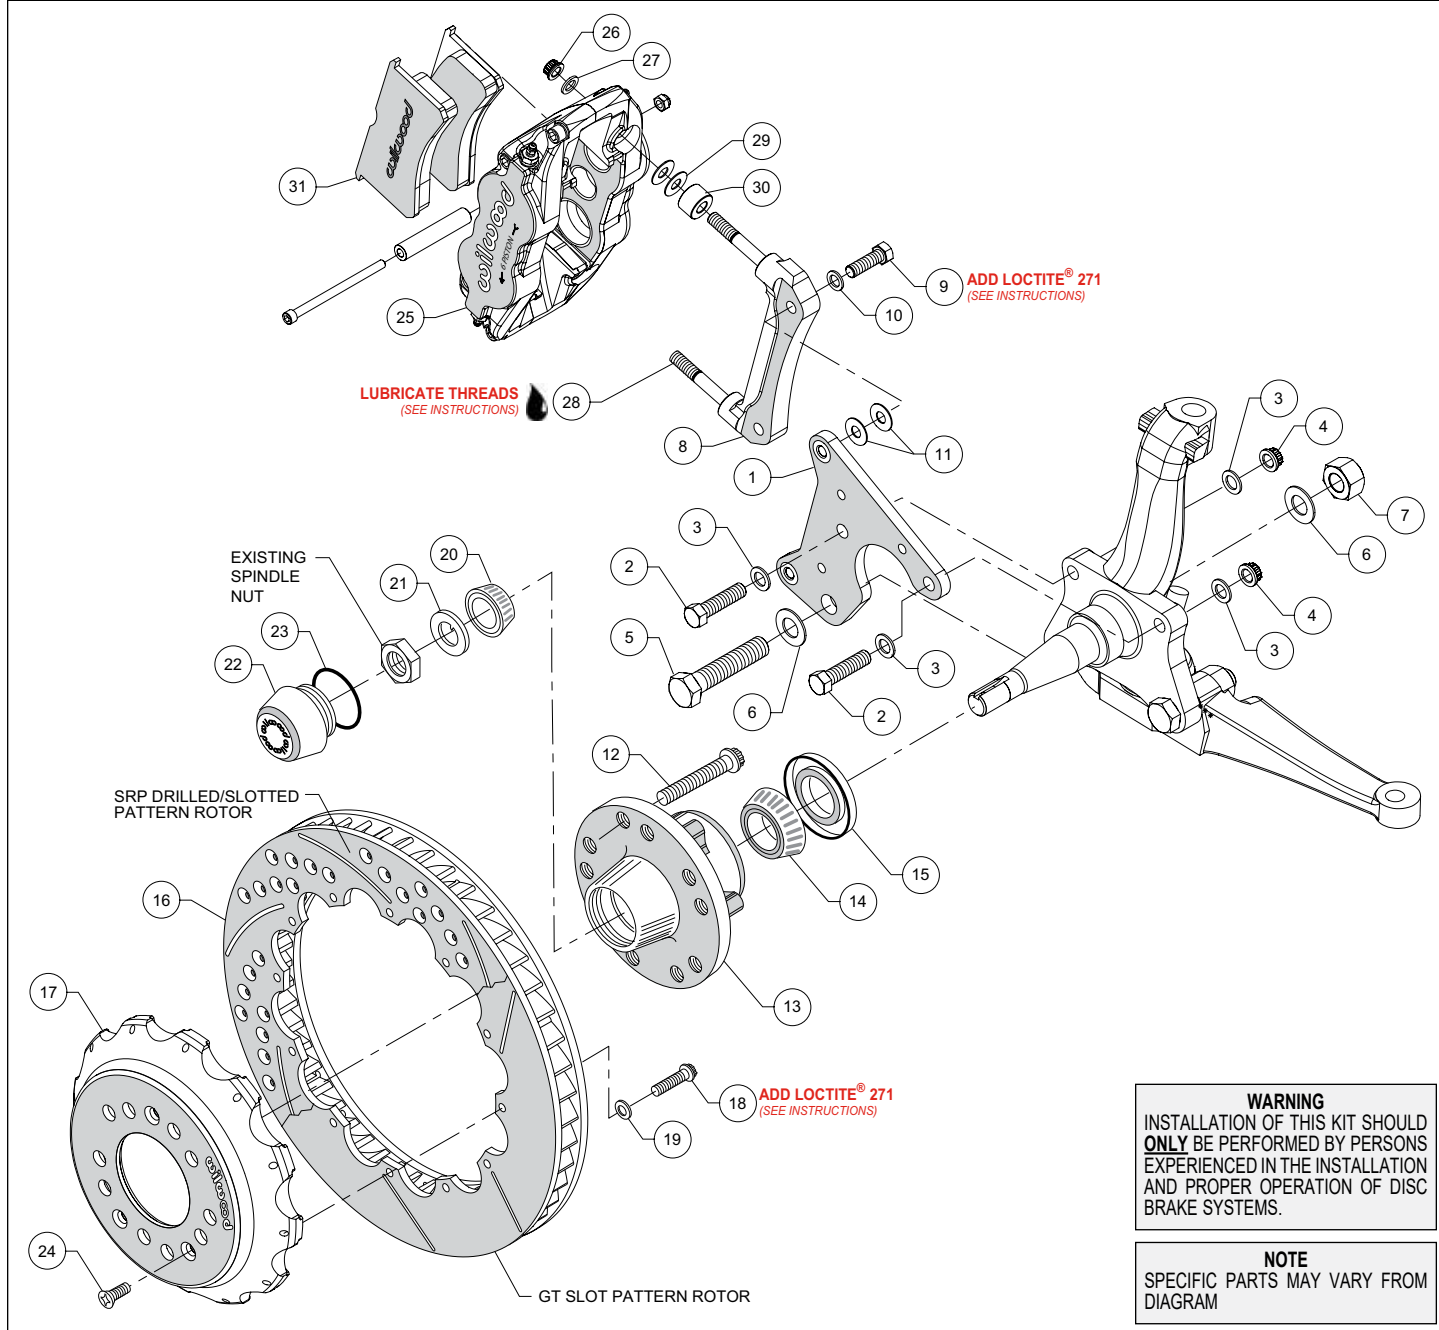

Figure 1. Typical Installation Configuration
NOTE: Numbers in parenthesis refer to the parts list and Figure 1 on the preceding pages.
- Orient the spindle bracket (1) as shown in Figure 1 and Photo 1, and install using bolts (2), washers (3), and nuts (4) on the top holes and bolt (5), washers (6), and nut (7) on the bottom hole, Figure 1 and Photo 1. Temporarily tighten the mounting bolts. Ensure that the flanged heads of the clinch nuts in the bracket are facing outboard, Photo 1. **NOTE:** The bracket must fit squarely against the mounting points on the spindle. Inspect for interference from casting irregularities, machining ridges, burrs, etc. Torque nuts (4) to 47 ft-lbs. and nut (7) to 140 ft-lbs.
- The caliper mount radial bracket (8) should initially be installed with clean, dry threads on the mounting bolts. Orient the bracket as shown in Figure 1, and Photo 2. Install onto the spindle bracket using bolts (9), and washers (10). Initially place two .035 thick shims (11) on each bolt between the radial and spindle brackets, Figure 1. Temporarily tighten the mounting bolts. Later, after the caliper alignment has been checked, the mount bolts will be secured using red *Loctite*® 271.
- Install wheel studs (12) into the hub (13), Photo 3. Torque to 77 ft-lb. **NOTE:** There are two five lug patterns in the hub (5 x 4.50 and 5 x 4.75). Ensure the correct hub stud pattern is being used to fit the wheel application.
- Pack the large inner bearing cone (14) with high temperature disc brake bearing grease (available from your local auto parts store) and install into the backside of the hub (13), Photo 4.
- Install the grease seal (15) by pressing into the backside of the hub (13), flush with the end of the hub, Photo 4.
- Orient the rotor (16) and the hat (17) as shown in Figure 1 and Photo 5. Attach rotor to hat using bolts (18) and washers (19). Apply red *Loctite*® 271 to the bolt threads and torque to 155 in-lb
- Screw dust cap (22) into hub (13), Photo 7. Friction created by the o-ring (23) on the dust cap keeps it from unscrewing. **NOTE:** *The O.D. of the existing OEM spindle washer may be larger than the I.D. of the dust cap not allowing it to seat against the hub face. Therefore, use the spindle washer (21) supplied with the kit instead of the OEM washer.*
- Slide the hat/rotor assembly (16/17) onto the hub (13) taking care to align the small countersunk holes in the hat with the small threaded holes in the hub. **NOTE:** *The hat must fit flush against the hub face or excessive rotor run out may result.* Install three flat head screws (24) through the small holes in the hat, Photo 7, and torque to 85 in-lb.
- NOTE:** *This kit contains distinct right and left hand calipers that must be mounted in a specific direction, as described below.* Lubricate the caliper mounting studs (28) with lightweight oil. Initially place one spacer (30), and two .035" thick shims (29) on each stud between the caliper and the bracket, as shown in Figure 1 and Photo 8. Mount the caliper (25) onto the bracket (8) using lock nuts (26) and washers (27), Figure 1. Ensure that the caliper is mounted so the largest pistons are at the rotor exit end of the caliper, in relation to the direction of rotor rotation. Temporarily tighten the lock nuts and view the rotor through the top opening of the caliper. The rotor should be centered in the caliper, Photo 9. If not, adjust by adding or subtracting shims (11) between the spindle bracket (1) and the caliper mount bracket (8). Always use the same amount of shims on each of the two mounting bolts. Once the caliper alignment is correct, remove the radial bracket mounting bolts one at a time, apply red Loctite® 271 to the threads, and torque to 40 ft-lb. **NOTE:** *The end of the bolts must be flush with, or protruding through, the head of the clinch nut.*